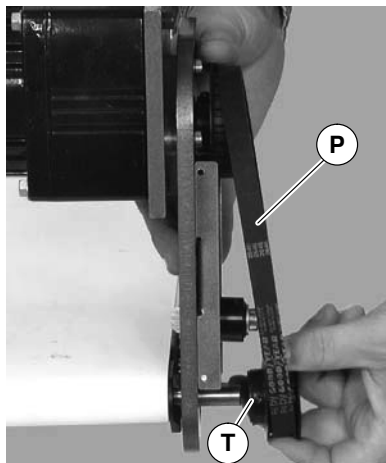

Figure 15
3. Remove timing belt (P of Figure 15).
NOTE: If timing belt does not slide over pulley flange, loosen two driven pulley set screws (T of Figure 15) and remove pulley with belt (P). For re-installation, see steps 6 and 7 on page 9.